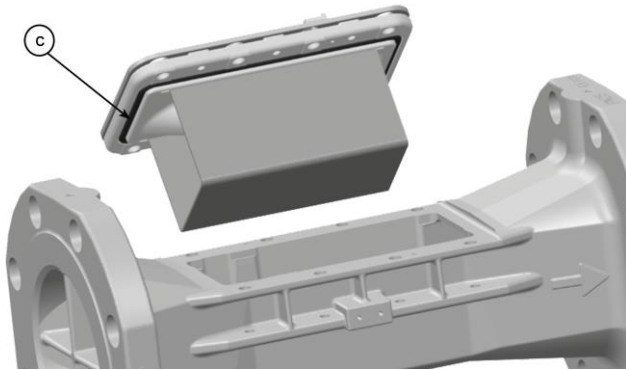

Fig. 18: Gasket "c" of the measurement insert
- Check the fit of the gasket "c" (see figure 18) on the interim cover. The gasket must be properly positioned in the groove and be free of any damage.